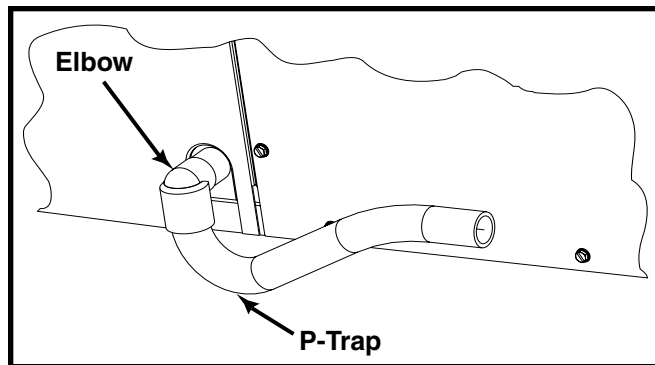

Figure 4. Drain Trap
A 3/4" condensate fitting extends out of the side of the unit as shown in Figure 4. The drain trap (shipped in the electrical compartment), must be installed to prevent water from collecting inside the unit.
- The low voltage wires must be properly connected. Route 24V control wires through the sealing grommet (Figure 4, page 6) near the power entrance. Connect the control wires to the defrost board and blower relay wire (Figure 6). Recommended wire gauge and wire lengths for typical thermostat connections are listed in Table 2.